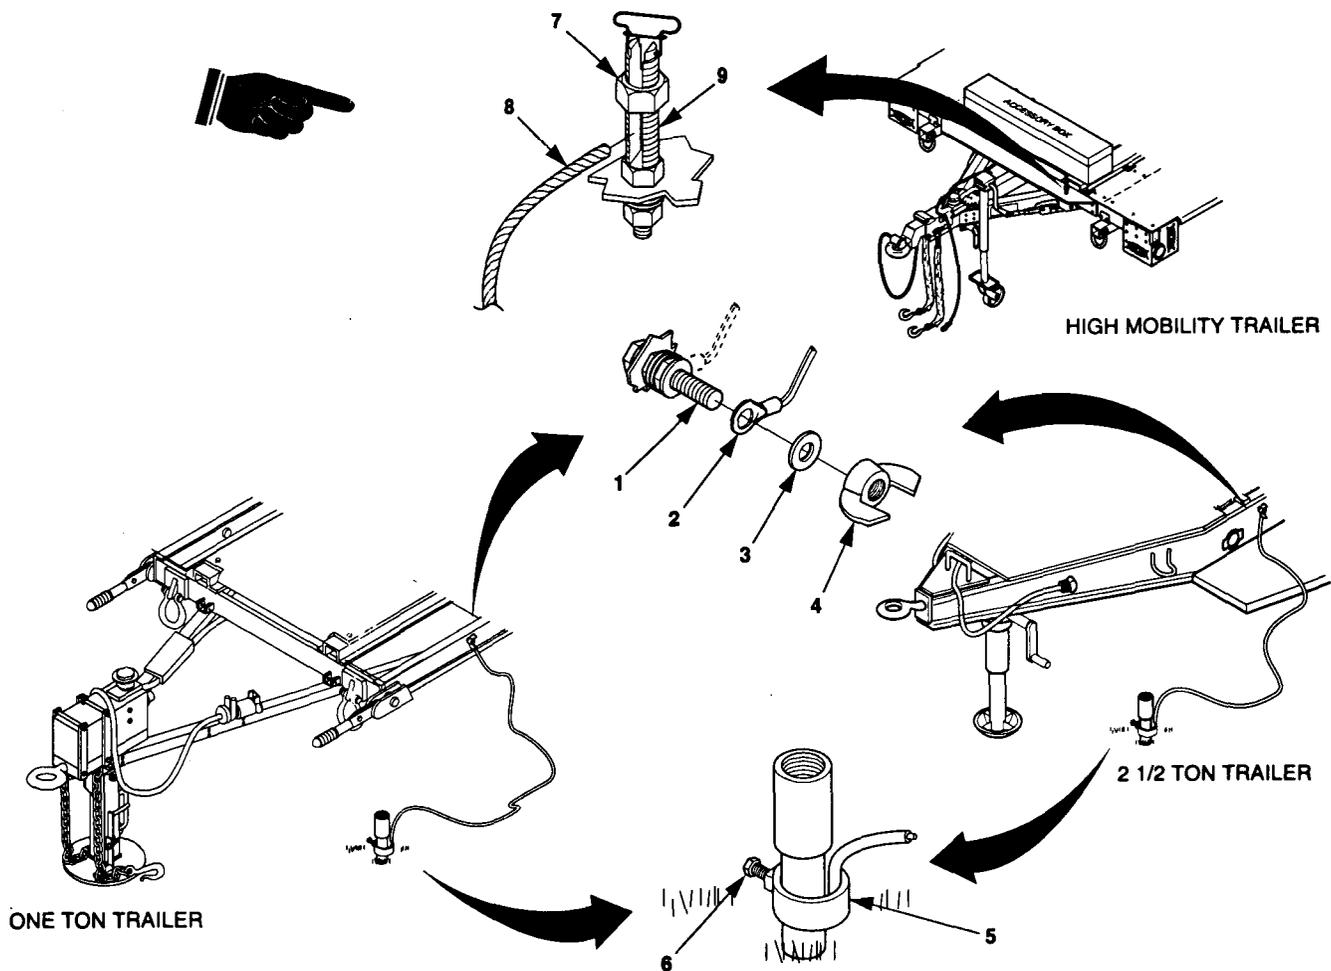

Figure 2-6. Typical Ground Rod Installations.
2-3.3 Grounding of Generator Set. Ground the equipment in accordance with Army Field Manual Field Manual 20-31. Typical ground rod installations are shown in Figure 2-6. If a ground rod is used, install and connect it as follows:
- (1) If the high mobility trailer (PU-801A) is being used, perform steps (5) through (7). Otherwise perform steps (2) through (4) and step (7).
- (2) Remove and retain wing nut (4, figure 2-6) and washers (3) from trailer ground stud (1) and install ground cable terminal (2) to ground stud (1)
- (3) Install washers (3) on ground stud (1).
- (4) Install wing nut (4) on the ground stud (1) and tighten.
- (5) Loosen nut (7) on high mobility trailer ground terminal (9).